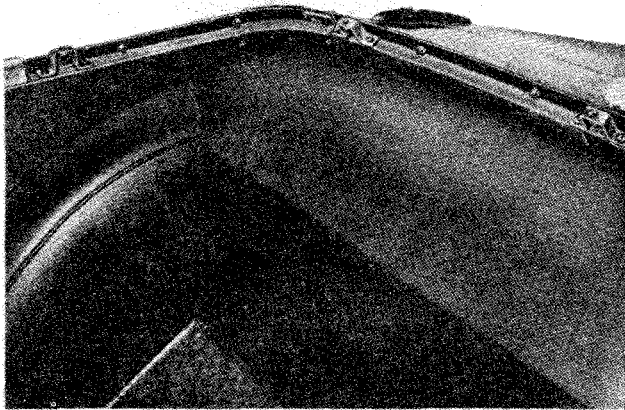

Fig. 5 Bridge Pieces in position on Elbow Rail Channel.
- (h) Remove the bridge pieces from the canopy and secure them to the elbow rail with screws (in accordance with their position and identification markings) to a tapping plate fed in from the rear luggage compartment. (Fig. 5).